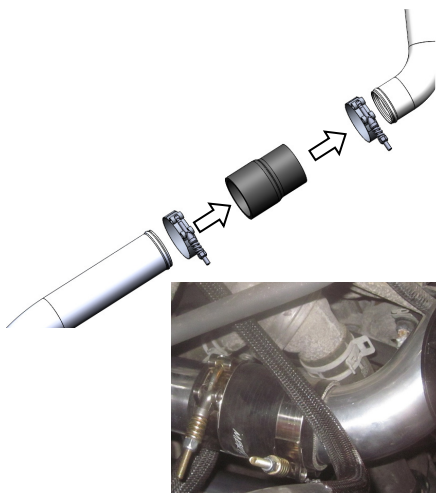

Figure 5
4. Install the **2.25” to 2.5” Hose Coupler** onto the bottom end of the **LHS Upper Intercooler Pipe**, securing it using a **2.25” Hose Clamp**. **Refer to Figure 5**
6. Insert the top end of the **LHS Lower Intercooler Pipe** into the **2.25" to 2.5" Hose Coupler** with a **2.5" Hose Clamp** (Refer to **Figure 5**), and the bottom end into the **2.5" X 4" Hump Hose Coupler** with another **2.5" Hose Clamp**. Do not fully tighten the clamps yet.